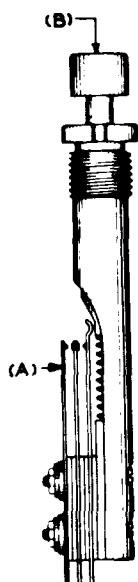

Fig. 7
- * 2.08 Contact Follow (223E Key Only): Fig. 7 (A) - There shall be a follow on the outside contact spring of
- * 2.09 Plunger Operate Pressure: Fig. 7 (B) -